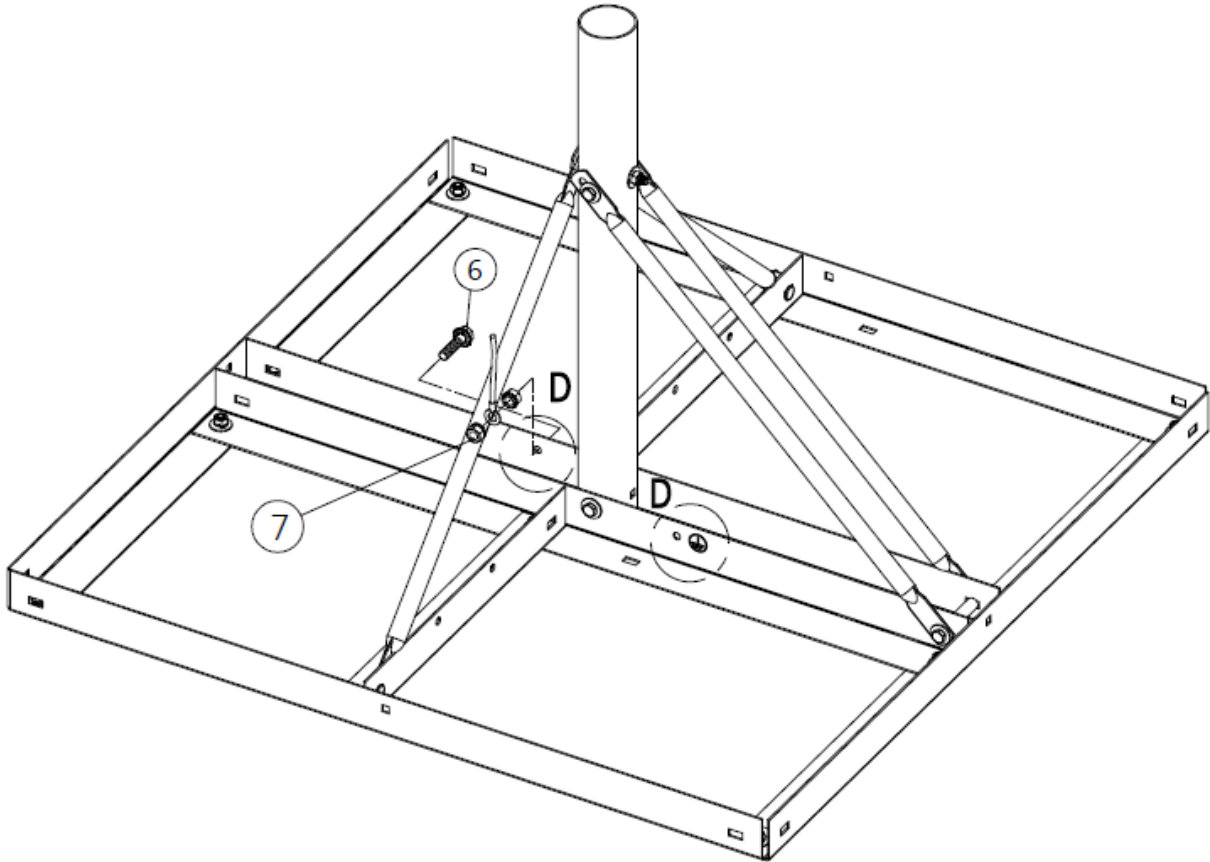

Figure 37: Installing the grounding cable
7. Assemble the grounding cable as shown in Figure 37. Secure the cable in place using a hex flange screw (6) and two keps k-lock nuts (7).